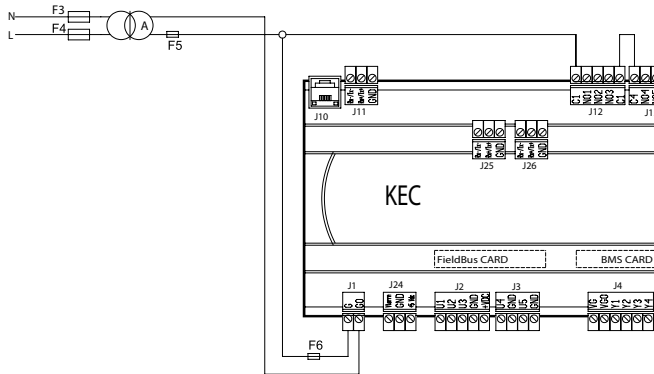

Fig. 2.f
The power supply, to be provided by the user, is 24 Vac (+10/-15%) 50/60 Hz on terminal J1 (G, G0). 24 Vac must also be supplied to the common connectors C1 and C4 on relay outputs J12 and J13, as shown in Fig. 2.f.
- the 230Vac/24Vac transformer, to be provided by the user, that powers the controller and the safety extra low voltage loads connected, must feature double insulation of 100 VA; protection class II in accordance with EN 61558 for CE versions (pumps P/Ns KEC***DH*0) and class II UL for UL versions (pumps P/Ns KEC***UH*0); insulation class F or higher; 4 A fast-blow (type F) protection fuses on the primary, on the line and neutral (F3, F4 in Figure 2.f), 4 A fast-blow (type F) fuse on the secondary (F5 in Figure 2.f);